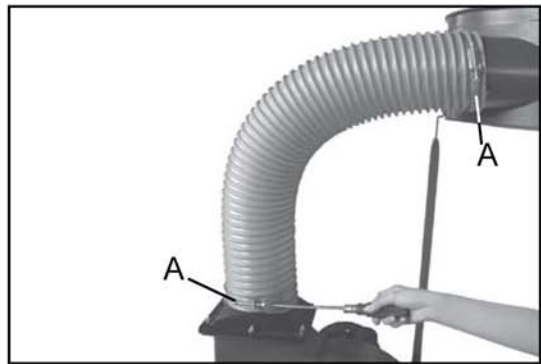

Fig. 08
1. Slip a hose clamp over both ends of the hose (A--Fig. 08).
- 3.) Place one end of the hose over the 5" outlet on the fan housing and the other end on the collector. (Fig. 08).